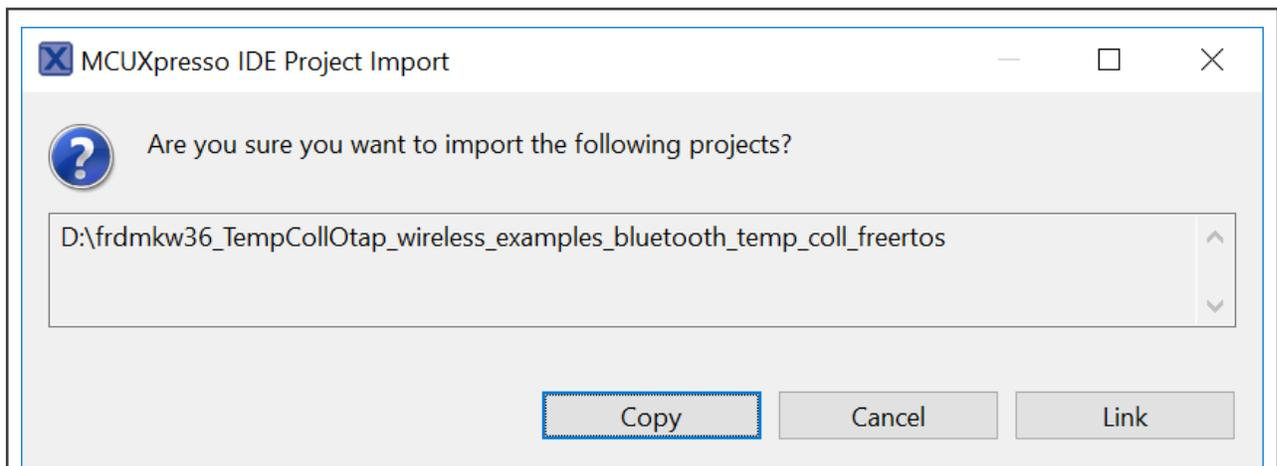

Figure 35. Importing the Temp Coll-OTAP demo on the MCUXpresso workspace
- Install the Temp Coll-OTAP demo provided with this document in your MCUXpresso IDE. You can drag and drop the project from your installation path to the MCUXpresso workspace. A warning message appears, as shown in Figure 35. click the **Copy** button to clone the original example.